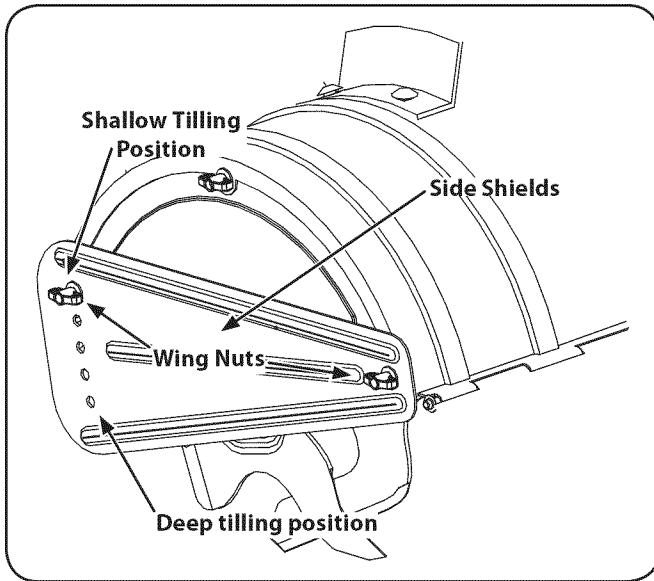

Figure 5-2
- To adjust the side shields, remove the wing nuts. Move the side shield to the desired position and replace the wing nuts. Tighten securely. See Fig. 5-2.